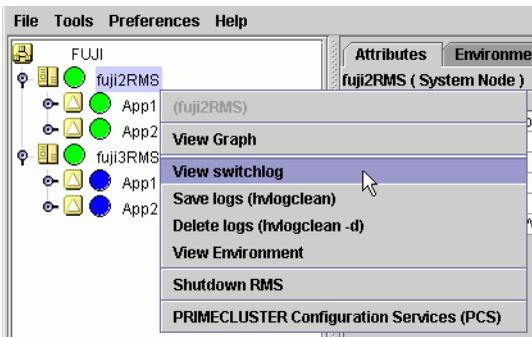
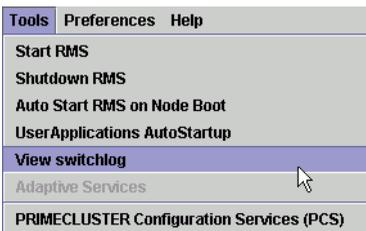

Figure 1: Viewing the RMS switchlog file using a context menu
Figure 2: Viewing the RMS switchlog file using the Tools menu
- ▶ Right-click on the system node and select *View Switchlog* from the pop-up context menu (Figure 1). Alternatively, select a node and use *Tools* → *View switchlog* (Figure 2).